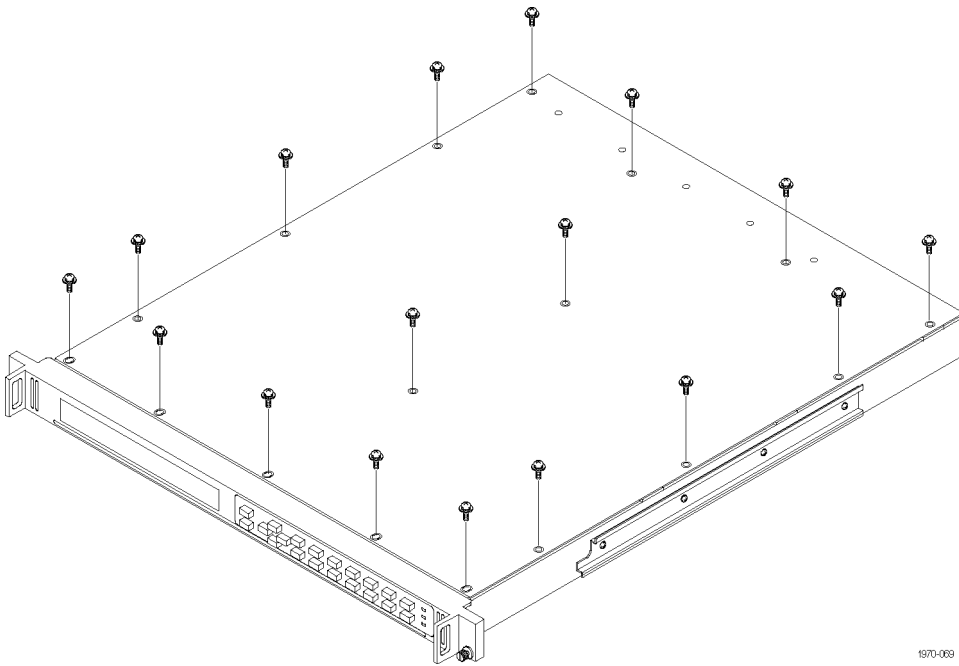

Figure 35: Top cover removal
3. Lift the top cover off the instrument. Depending on the version of your instrument, you might need to slide the top cover toward the rear before lifting it off the instrument. (See Figure 35.)